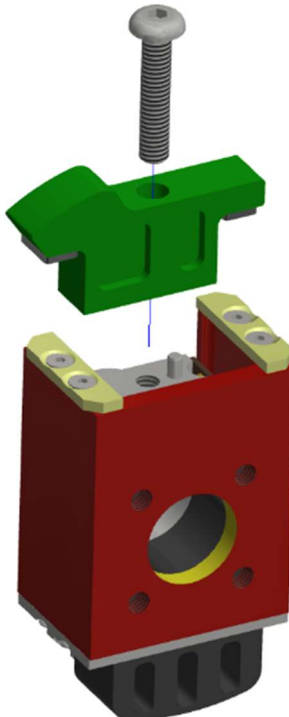

Figure 9-39. Attach the Knee Rotation Stop (474-5405) to the Left Knee Slider Upper Assemble (474-5425)
- 9.3.8 Attach the Knee Rotation Stop No Pot (474-5405) to the Right Knee Slider Assembly (474-5425) using a M4 X 0.7 X 20 LG. BHCS as shown in Figure 9-39.